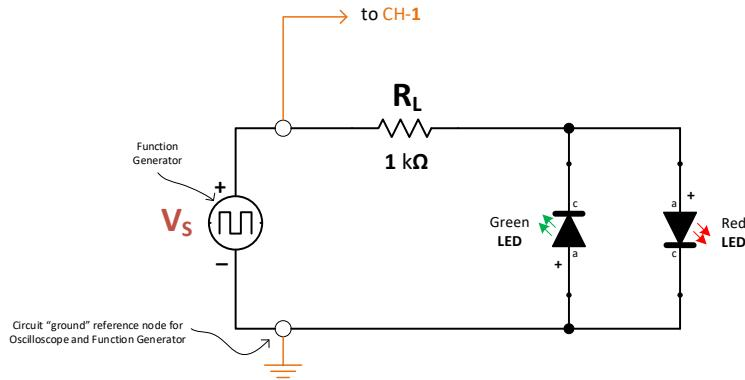

Figure 5.0: Dual “blinking LED” circuit
The purpose of this experiment is to visually observe the concept of **bi-directional** current flow of an AC signal through use of a “blinking” LED circuit, shown in **Figure 5.0**. The effects of “DC-Offset” feature of the Function Generator on a square-wave (digital) waveform will be demonstrated.
1. Select a $1\text{ k}\Omega$ resistor, the Red and Green LEDs from your Kit to construct the circuit in **Figure 5.0** on your breadboard. **Note:** In order to protect the LED from excessive current that can damage it, the current-limiting resistor, R_L of $1\text{ k}\Omega$ is used in series with the LEDs.
3. Connect the Function Generator to the circuit, and also to CH-1 of the Oscilloscope as shown in **Figure 5.0**. Monitor the Oscilloscope to confirm the waveform voltage setting of $\pm 5V$ and the waveform frequency of **1 Hz**.
Table 5.0: Observations of the “Blinking LEDs” of Figure 5.0 circuit.